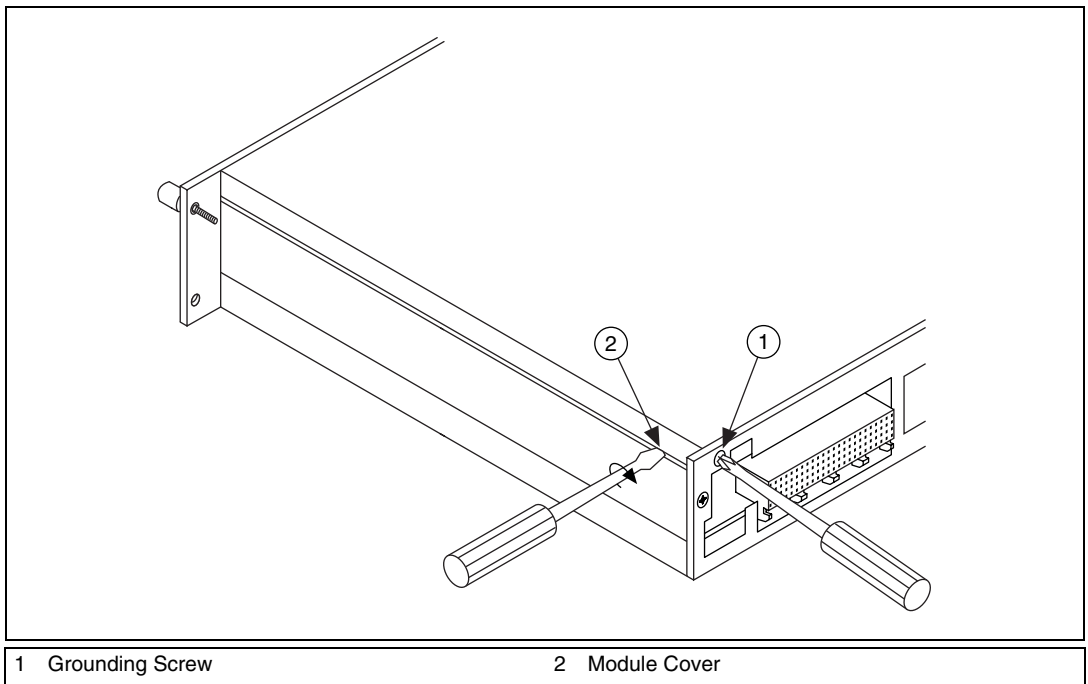

Figure 2. Grounding Screw and Cover Removal
Complete the following steps to set up the SCXI-1141/1142/1143 module for adjustment and to adjust the AC gain filter, referring to Figures 2 and 3 as needed:
10. Connect the DMM to the output of channel 0. Refer to Figure 2 to determine the pins on the 50-pin rear connector that correspond to the positive and negative outputs for the specified channel. For example, the positive output for channel 0 is pin 3, which is labeled MCH0+. The negative input for channel 0 is pin 4, which is labeled MCH0–.